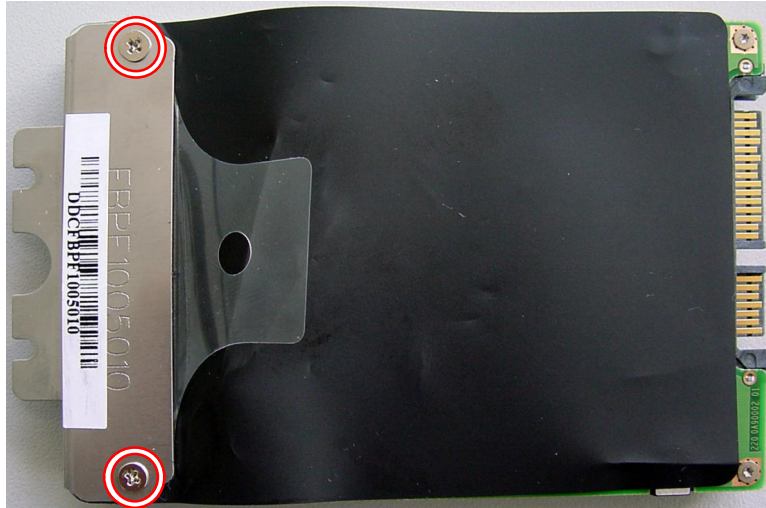

Fig. 5 Location of hard disk drive bracket screws.
6. Remove the two screws on the metal bracket to separate it from the hard disk drive (see Fig. 5).